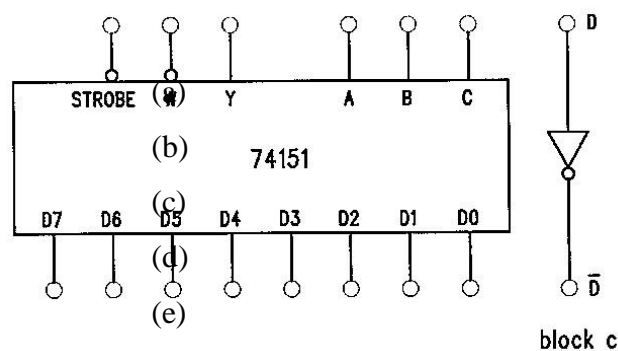

Figure 10.3
**(C) Constructing a 8-to-1 Multiplexer circuit with TTL IC 74151 (KL-34003 block c)**
10.6 Refer to block c of Module KL34003 as shown in Figure 10.3. Connect inputs D7 ~ D0 to DIP switch, select inputs C, B and A to data switches and outputs W and Y to logic indicator. Connect STROBE input to data switch and then set to LOW. Set the DIP switches at random.